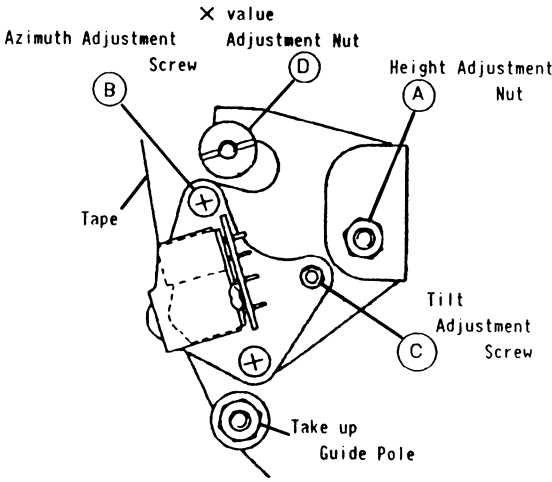

Fig. 5-14
3. After confirming on the oscilloscope that a 1 kHz audio signal is being output by playing back F6-A test tape, adjust the height adjustment nut (A) so that the AC voltmeter's reading is brought to its maximum level. (Refer to Fig. 5-14.)
4. Adjust the azimuth adjustment screw (B) so that the AC voltmeter's reading is brought to its maximum level. (Refer to Fig. 5-14.)
1. After confirming on the oscilloscope that a 6 kHz audio signal is being output by playing back F8-N test tape, adjust the azimuth adjustment screw ㊸ so that the AC voltmeter's reading or osilloscope waveform is brought to its maximum lebel (Refer to Fig.5-14).